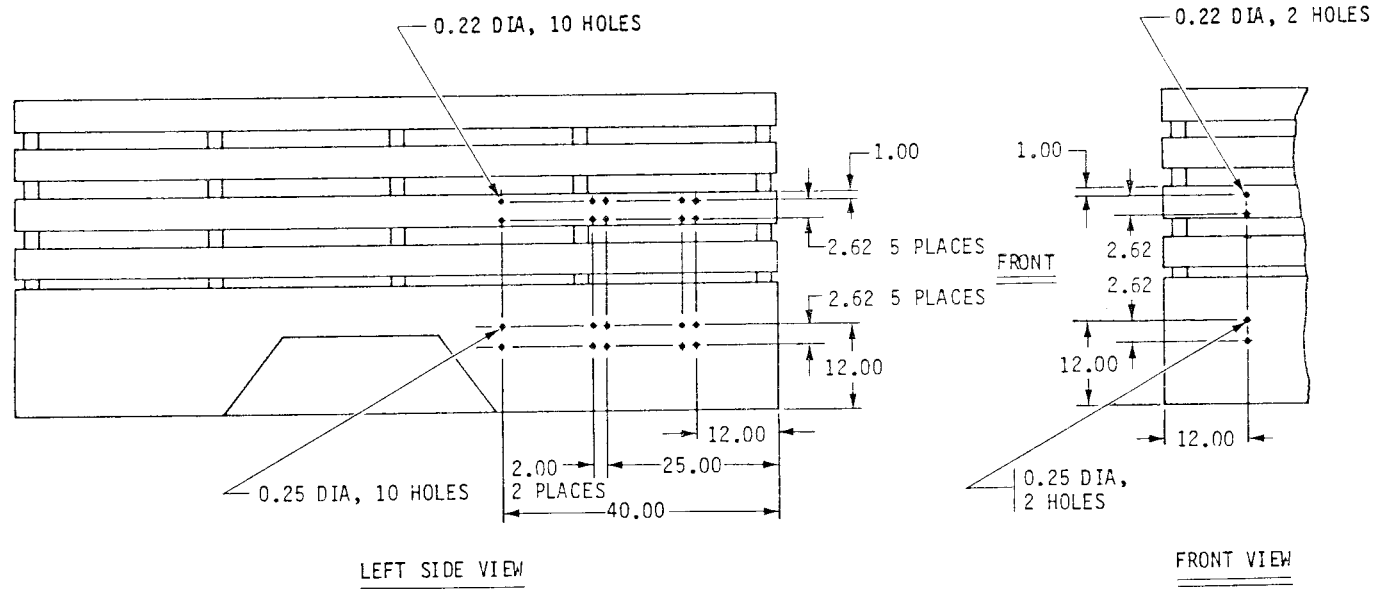

Figure 10. Hole Dimensions for Blind Rivet Nuts and Strap Loops, Unit 2, M105A2, Left Side and Front View.
e. Drill twenty 0.22-in. diameter holes through trailer slats in accordance with dimensions shown in figures 10 and 12, unit 2. Secure ten strap loops (MS51939-3) to trailer slats, using twenty #10 x 1-1/4-in. countersunk head machine screws (MS35190-276), twenty 7/32-in. flat washers (MS27183-42), twenty #10 lockwashers (MS35338-43), and twenty #10 hex nuts (MS35649-202).